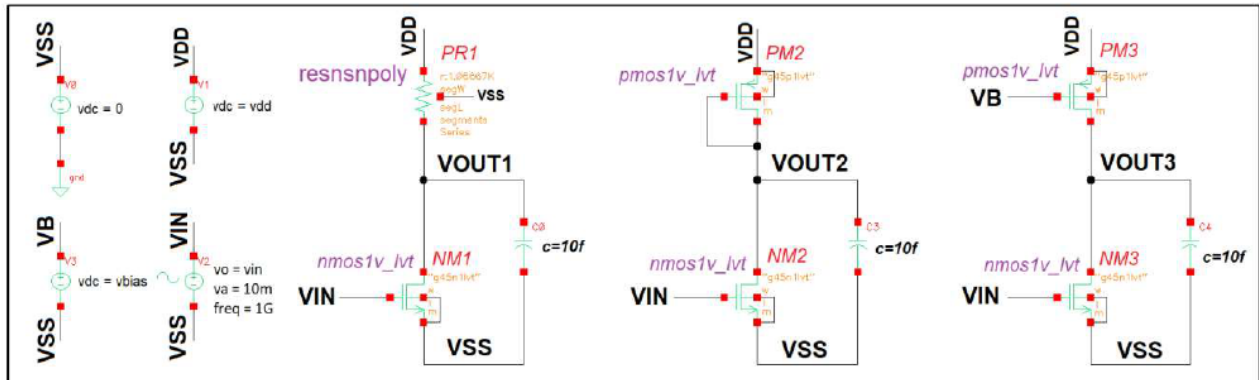

Figure 18. Common source stage schematic for TRAN analysis
- Replace the V2 source from a **vdc** type to a **vsin** type. Set the **offset voltage equal to $V_{in} = 0.65V$, frequency = 1.0GHz and amplitude = 10mV** as shown in **Figure 18**.